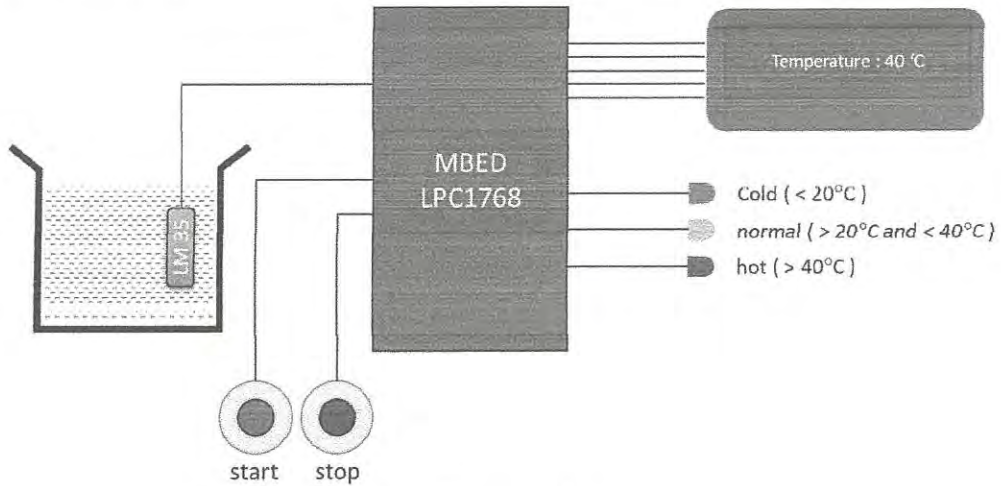

Figure Q4
- Q4** Figure Q4 shows a simple water temperature monitoring system in a plant. The temperature will be displayed on the LCD (C12832). The temperature sensor is the LM35, which is an analog sensor. If the temperature is less than 20°C, the blue LED will be turned on, while if the temperature is more than 40°C, the red LED will be turned on. Otherwise, the yellow LED will be turned on. The system will start the operation when the start button is pressed, and will stop the operation when the stop button is pressed. Note that the sensitivity of LM35 is 10 mV/°C, where 0 V represents 0°C, while 1.5 V represents 150°C. From the specifications,